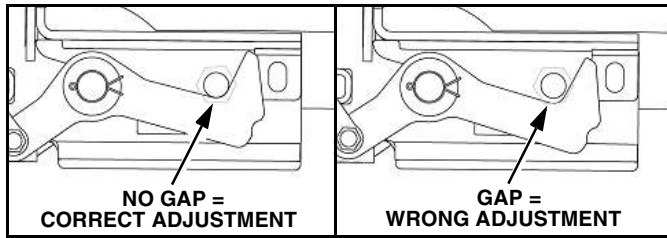

Figure 1-38
5. Periodically the turnbuckle will need to be adjusted due to wear and tear of the VRM. (See Figure 1-38).